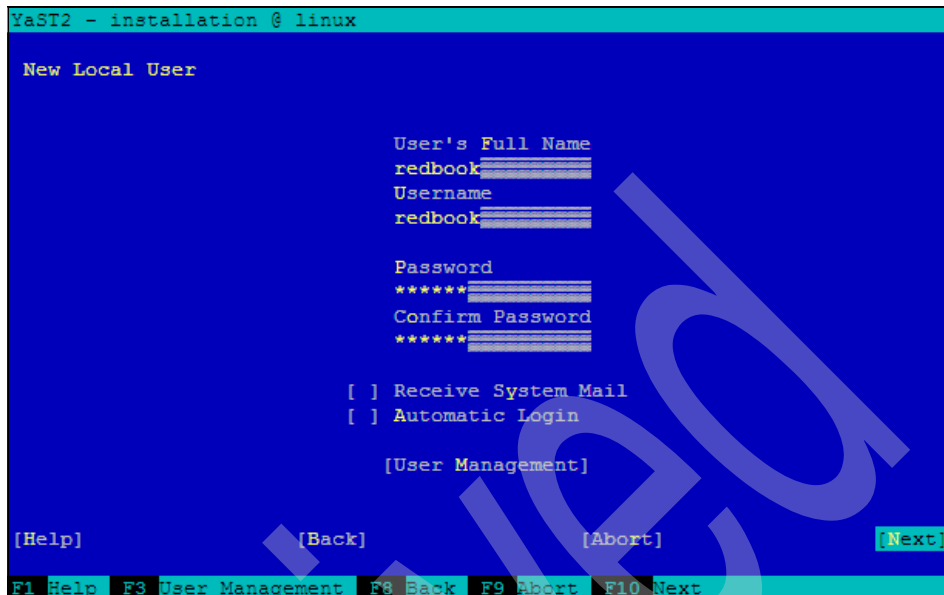

Figure 9-34 New Local User
25. Create a local user and select **[Next]**. See Figure 9-34 on page 385.